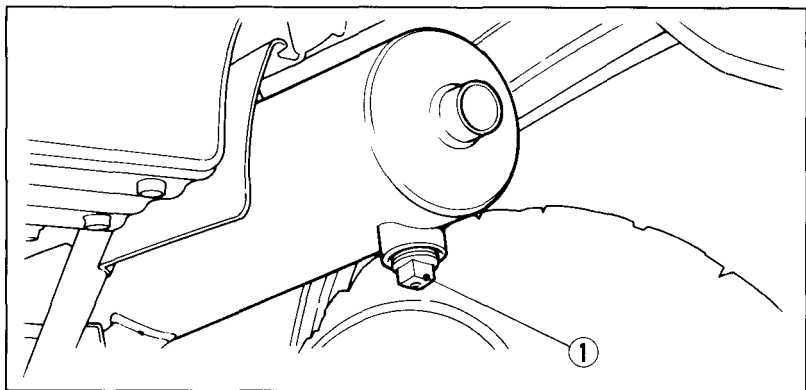

Fig. 4-36
2. Remove the bolt (Fig. 4-36).